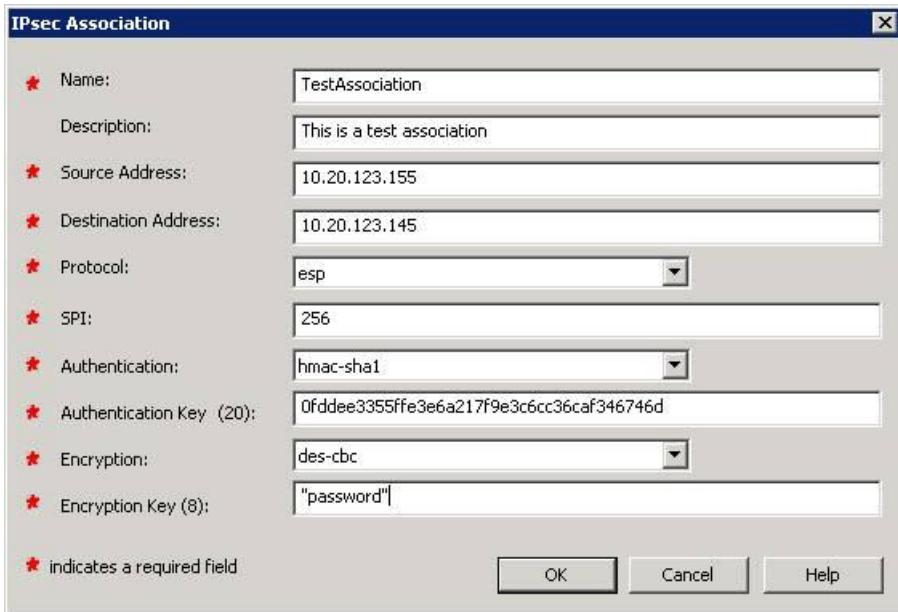

Figure 40 IPsec Association dialog box
The IPsec Association dialog box opens (Figure 40). You must complete all fields prefaced by a red asterisk.
The IPsec Association dialog box opens (Figure 40 on page 65).
4. To modify the copy, select it, and then click **Edit** to open the IPsec Association dialog box (Figure 40 on page 65).